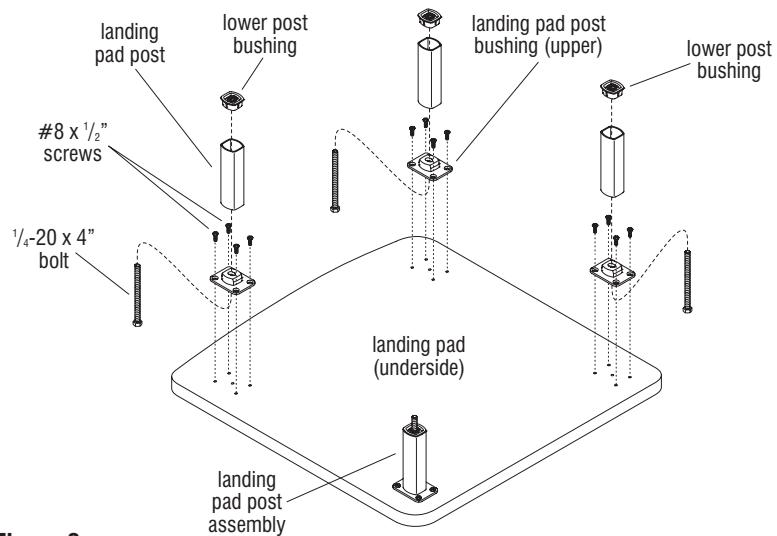

Figure 3
1. Carefully place the flat landing pad upside down onto a soft, protective surface (Figure 3).
2. Locate the hardware pack for the flat landing pad and identify the parts by referencing Figure 3.
3. Insert four $\frac{1}{4}$ -20 x 4" bolts into the four (upper) landing pad mount bushings as illustrated (Figure 3).
4. Secure the upper bushings with the $\frac{1}{4}$ -20 x 4" bolts to the underside of the landing pad using four #8 x $\frac{1}{2}$ " screws (Figure 3).
5. Place the lower post bushings down onto the landing pad posts as illustrated (Figure 3).